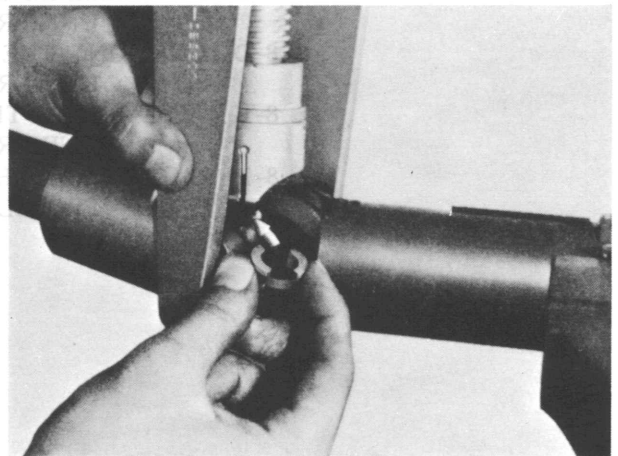

Fig. 8-4 Disassembling universal joint
5. Loosen the set screw and install the attachment (C) onto the spider as shown in Fig. 8-4.
6. Screw in the set screw until the bearing cup protrudes from the yoke into the attachment (B).